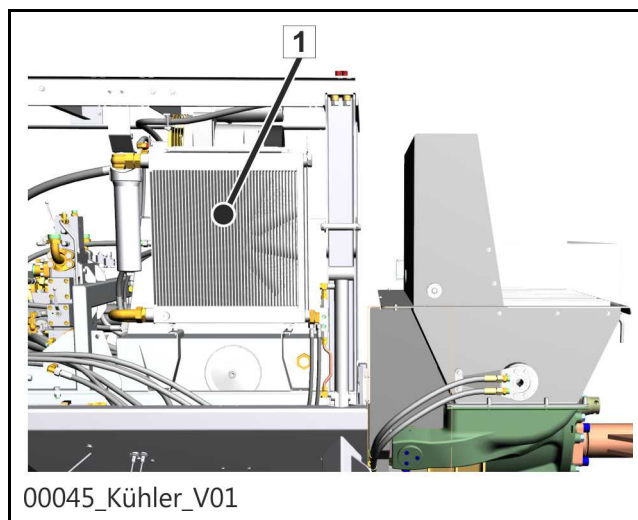

Fig. 159
Dusty precipitation on the fins of the oil cooler (1) (**Fig. 159**) reduces the cooling efficacy.